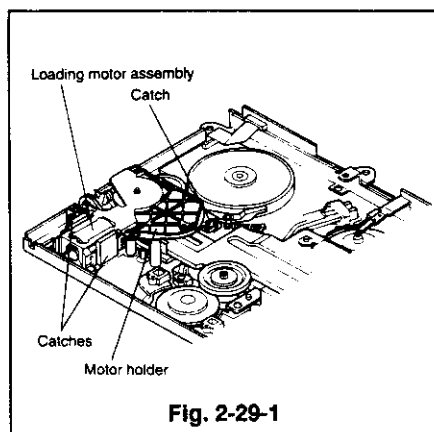
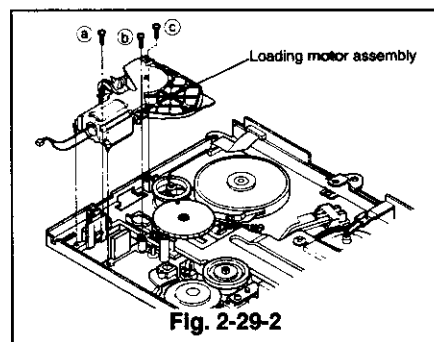

Fig. 2-29-1
Fig. 2-29-2
- ① Unfasten the reel belt. (Refer to Para. 2-28 for the removal method.)
- ② Remove the three screws (Ⓐ, Ⓑ and Ⓒ) as shown in Fig. 2-29-2 and unfasten the three catches to remove the loading motor assembly (which holds the motor holder). (Refer to Fig. 2-29-1)
- ⑦ Install the loading motor assembly (which holds the motor holder) in the position shown in Fig. 2-29-2 and secure it with the three screws (Ⓐ, Ⓑ and Ⓒ).
- ⑧ Install the loading motor belt. (Refer to Para. 2-28 for the installation method.)